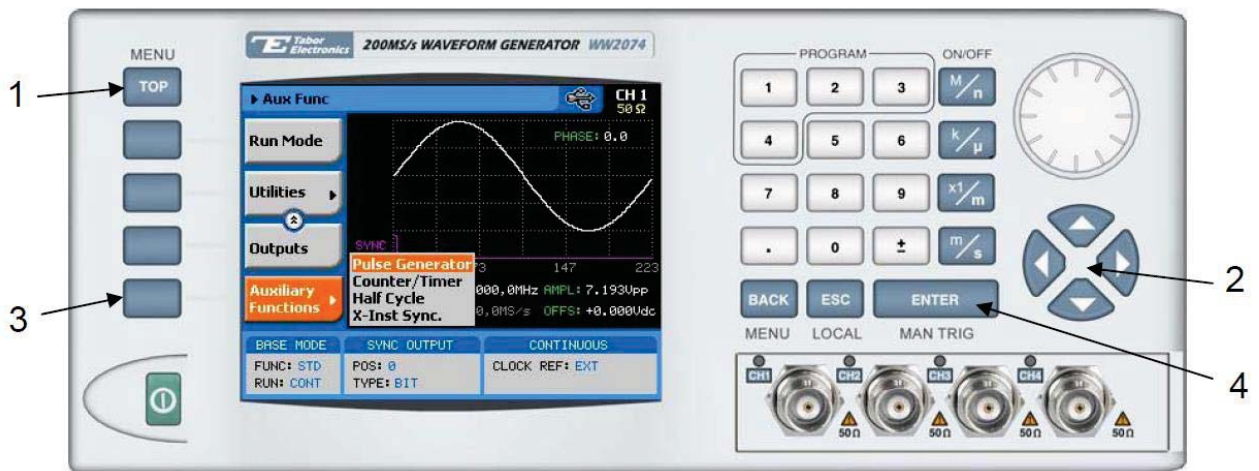

Figure 3-31, Accessing the Pulse Generator Menus
3. Press Auxiliary Functions soft key and notice that the Pulse Generator option is highlighted, as shown in Figure 3-31.